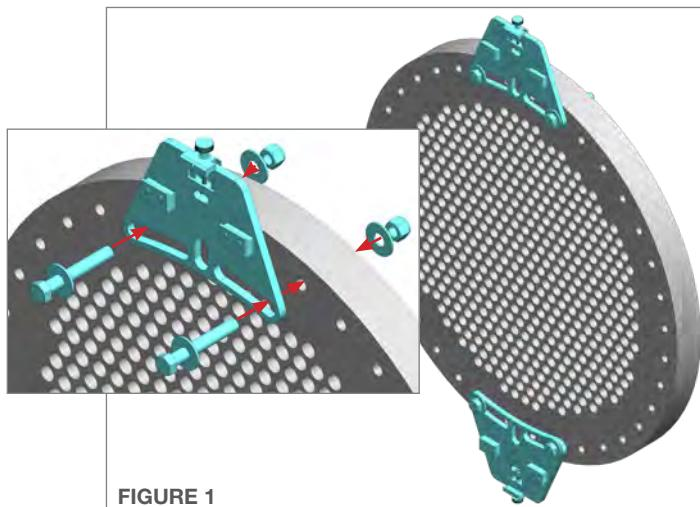

FIGURE 1
QUICK CLAMPS (LWP 518) are for use with heat exchanger flanges that provide a robust clamping surface or if flange holes are inaccessible. Align clamps on the surface of the flange to maximize flange engagement to clamps. (Figure 1)
SLOTTED QUICK (LWP 552) AND PLATE CLAMPS (LWP 519) are for use with heat exchanger flanges that have easily accessible bolt holes. Use quick clamps or plate clamps, depending on the spacing of the hole pattern. (Figures 1 & 3)
1. Mount the appropriate frame **Positioner Clamps** to the tube bundle as shown in Figure 1. (Shown with Plate Clamps) Positioner Clamps should be Parallel to the direction of the tube rows. **(Figure 1)**